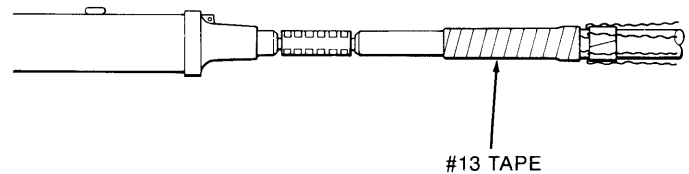

Figure 3
4. Lubricate bore of splice with silicone grease and install onto cable "X" leaving conductor exposed for connector (Figure 3).